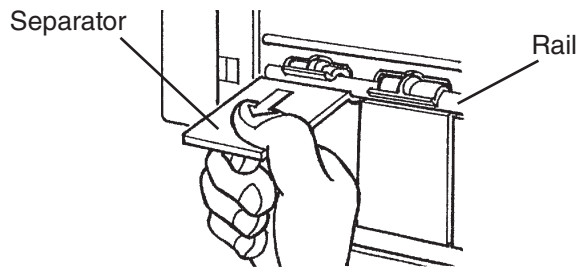

**Fig. 43**
13) Position and lock the ice chute onto the front and rear frame pipes by pushing the ice chute down until it clicks onto both frame pipes. See Fig. 43.